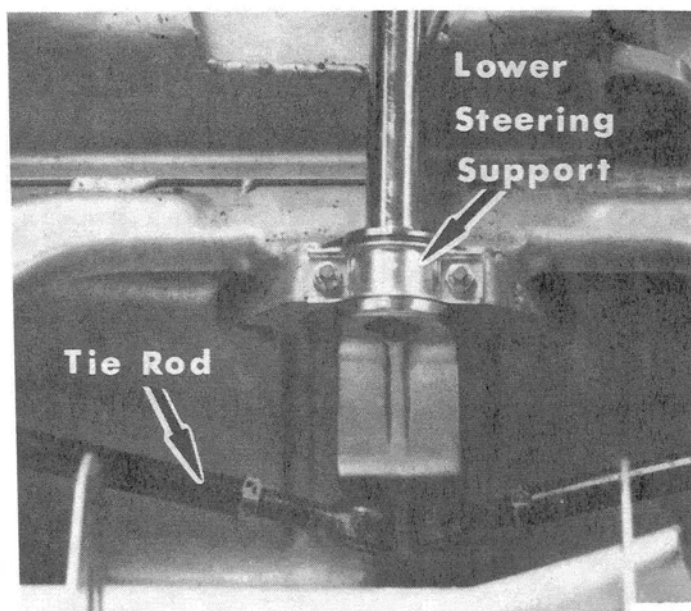

Figure 1. Steering Shaft Support
3. Disconnect tie rod ends from steering shaft pitman arm. DO NOT alter tie rod adjustment unless tie rods and components are to be serviced. (Figure 1)